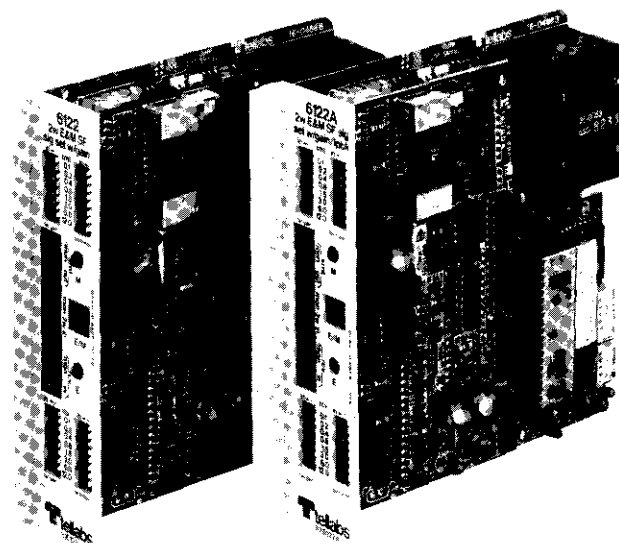

figure 1. 6122 and 6122A 2Wire SF Signaling Set modules with Gain
1.01 The 6122 2Wire E&M SF Signaling Set module with Gain and the 6122A 2Wire E&M SF Signaling Set module with Gain and Loopback (figure 1) each provide signaling and transmission interface between a 4wire facility that uses single-frequency (SF) signaling and a 2wire trunk (typically, a PBX trunk) or a 2wire line that uses E&M signaling. Both modules provide active level control in the transmit and receive paths, receive-path amplitude equalization, and full-duplex signaling conversion between the SF signaling on the 4wire facility and the E&M signaling on the 2wire trunk or line. Conventional 2600Hz SF tone is supplied by an integral oscillator. The 6122 and 6122A differ from ordinary 2wire E&M SF signaling sets in that they each contain an integral line amplifier to accommodate a variety of facility interface levels. Unlike the 6122, the 6122A contains integral loopback circuitry to facilitate local or remote testing of the module and the facility. As members of Tellabs' 262U Universal Network Terminating System of modules and enclosures, the 6122 and 6122A each fulfill Registered Facility Interface Codes TC11E, TC11M, TC12E, TC12M, TL11E, TL11M, TL12E, and TL12M for network-terminating applications where the serving telephone company uses SF signaling.